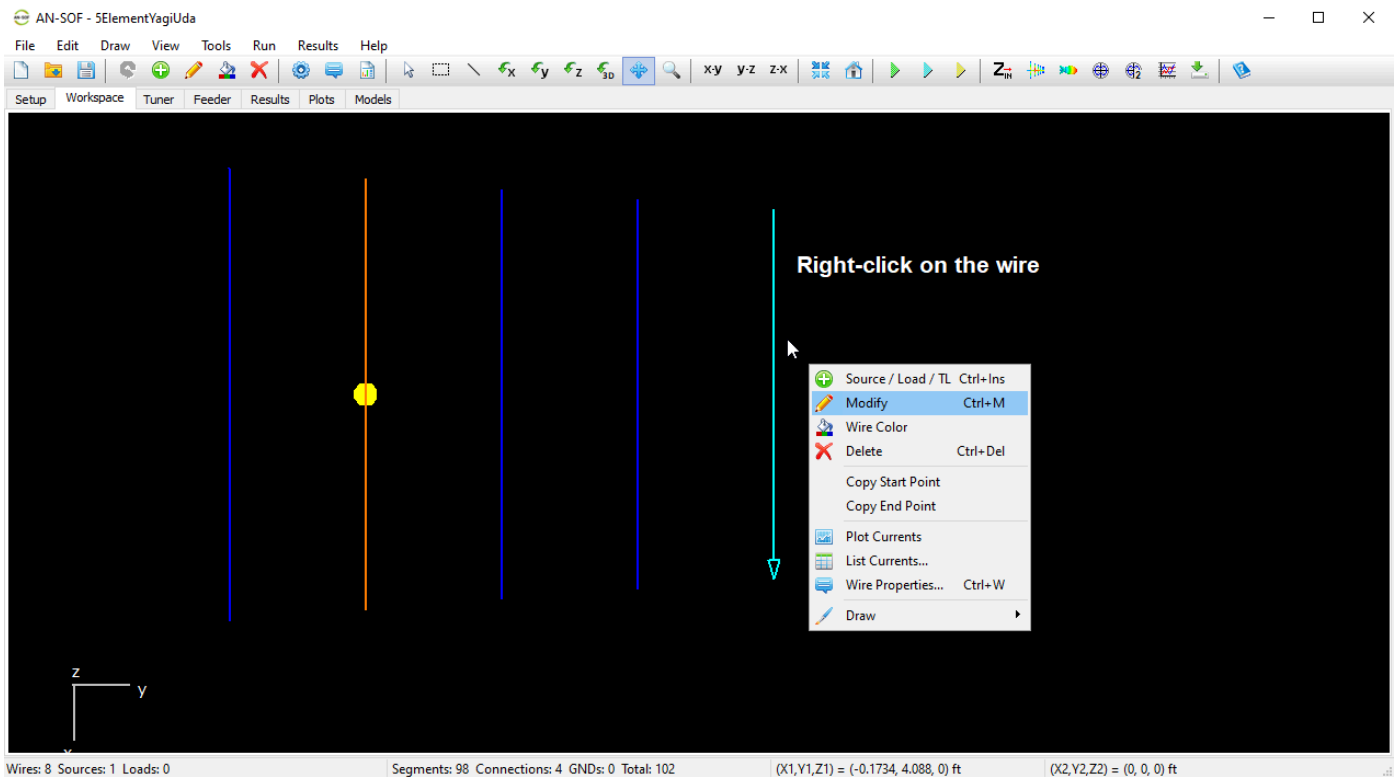

Fig. 1: Pop-up menu displayed when right-clicking on a selected wire.
2. **Right-Clicking the Wire:** Right-click on the wire to open a pop-up menu (see **Fig. 1**).